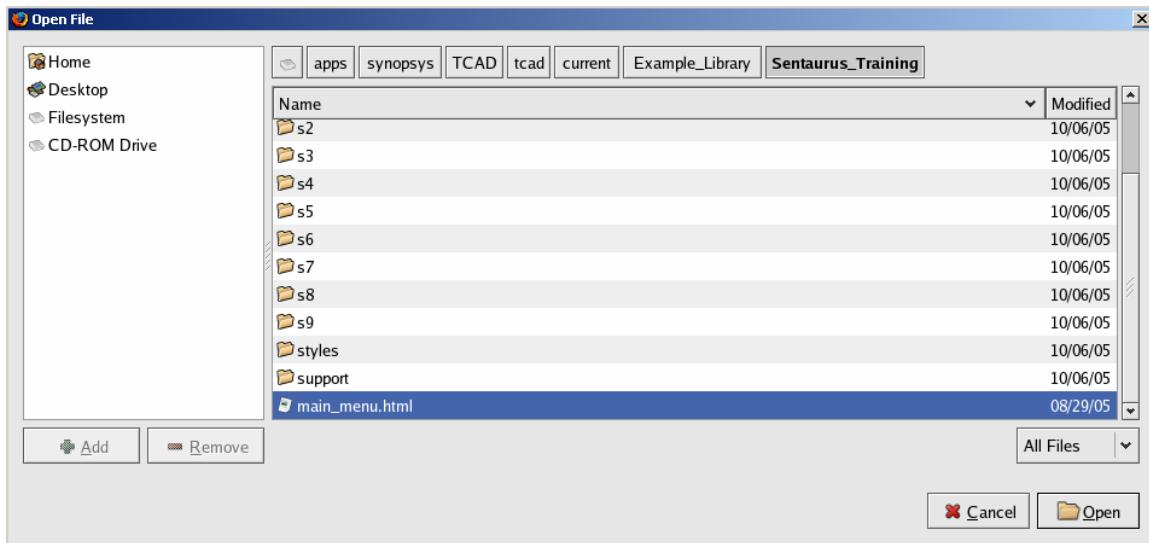

Figure 4: Location of Sentaurus Training.
6. Click on apps, synopsys, TCAD, tcad, current, Example\_Library, Sentaurus\_Training (Figure 4).
7. Double Click on main\_menu.html (Figure 4).